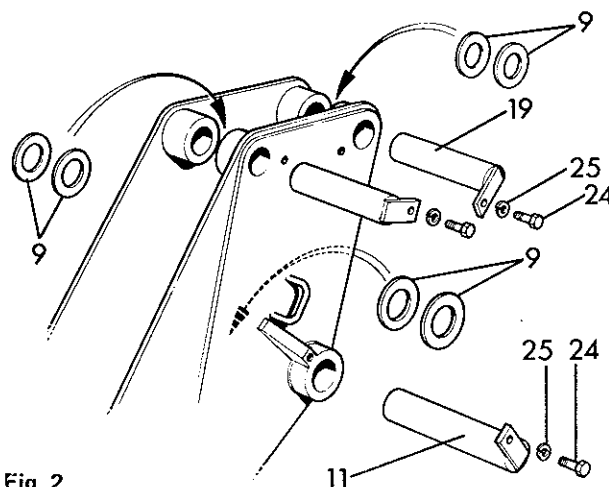

Fig. 2
7. Dipper ram, rod end. Disconnect. (fig. 2) Remove the setscrew (24) and the washer (25), securing the pivot pin (19). Using a suitable drift, remove the pin. Retain the washer (9). Start the engine and retract the piston.
11. Dipper pivot pin. Remove. (fig. 2). Remove the setscrew (24) and the washer (25) which are securing the pivot pin (11), and, using a suitable drift, remove the pin. Retain the washer (9).